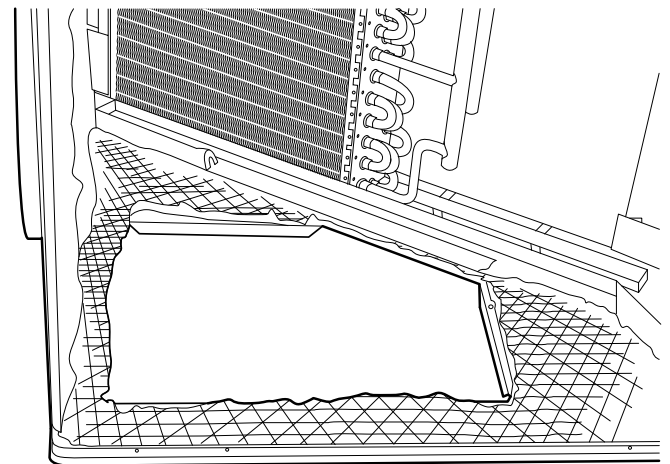

Fig. 17 — Insulation and Cover Removed from Vertical Duct Opening
4. Using a straight edge and sharp knife, cut and remove the insulation around the perimeter of the cover. Remove the screws securing the cover to the basepan and slide out the cover. Discard the cover (Fig. 17).